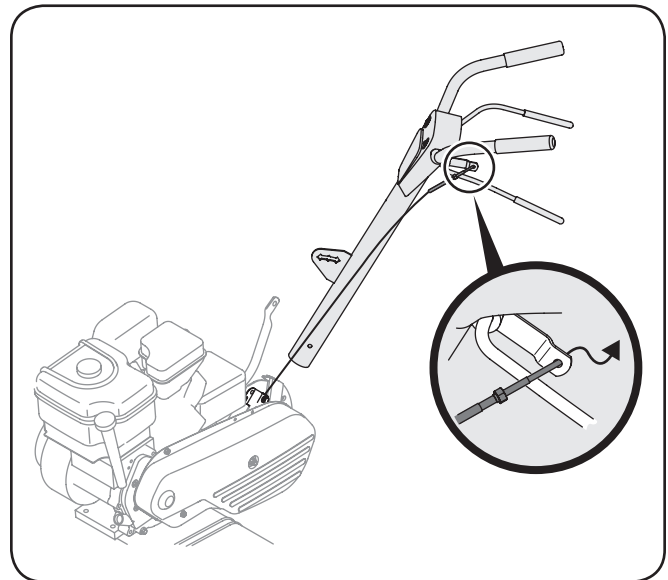

Figure 3-2
2. Hook the "Z" end of the forward clutch cable into the tine engagement lever Fig. 3-2.